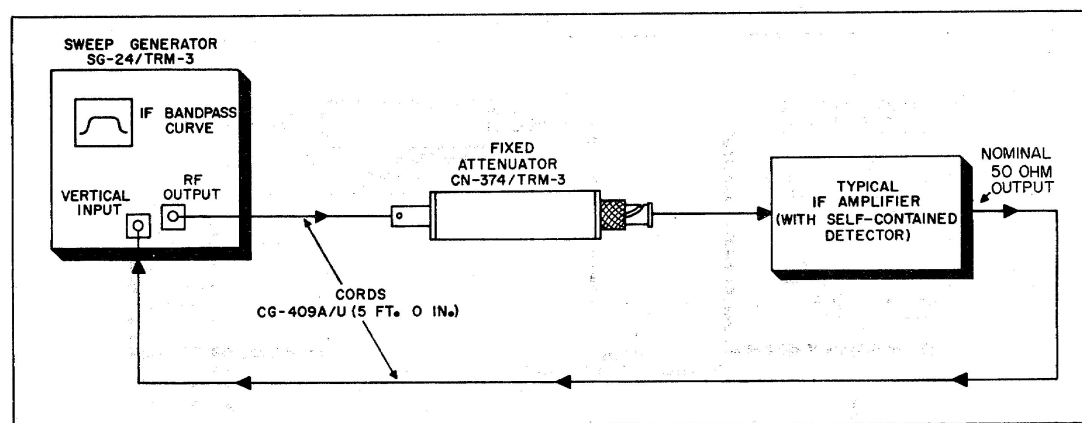

Figure 2-2. Typical Application for Fixed Attenuator CN-374/TRM-3 and Cords CG-409A/U
2-22. Figures 2-2 through 2-5 illustrate typical applications of the sweep generator, when frequency-modulated test signals are used.
- a. Figure 2-2 illustrates the connections required for the alignment of a typical i-f amplifier, having a self-contained detector in its output circuit. For this application, assume that the i-f amplifier requires an extremely low-level input signal. Use one of the CG-409A/U cords to apply the test signal from the sweep generator to the input of the fixed attenuator CN-374/TRM-3; connect the output of the fixed attenuator to the input of the i-f amplifier. Use the second CG-409A/U cord to apply the swept detected output of the i-f amplifier to the VERTICAL INPUT connector of the sweep generator.